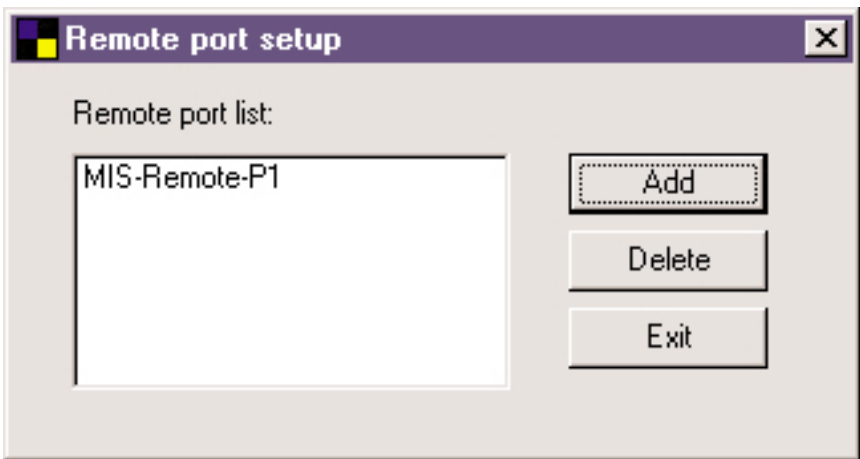
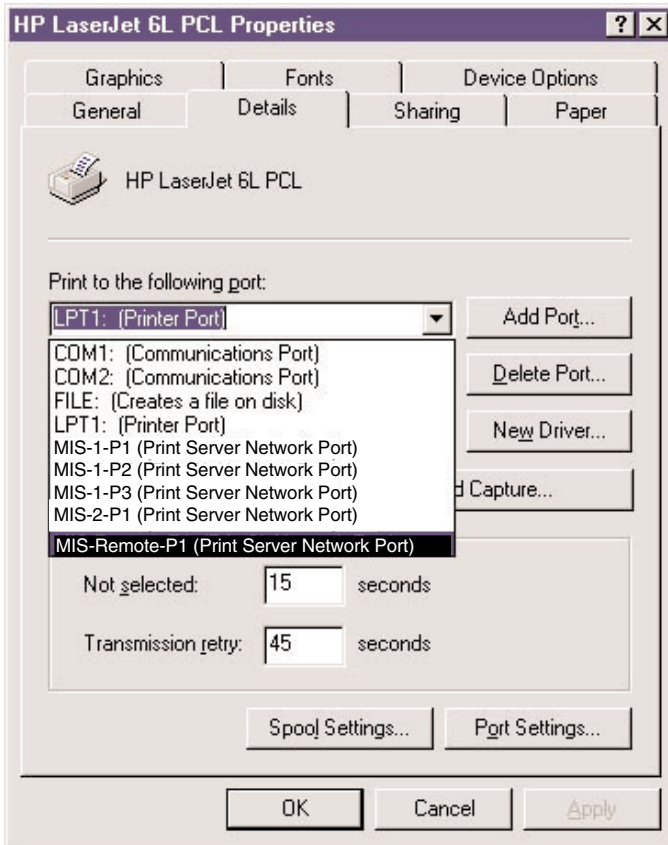

Figure 4-33. Remote port list.
Figure 4-34. Choosing which port to print to.
- Click on the **OK** button (Figure 4-32) to add the remote printer port to your computer's printer ports. Figure 4-33 appears.
To use the remote printing function, proceed with the normal Add Printer procedure and select your printer port as the newly added remote printer port. Click on **Add** in the Remote port setup screen (see Figure 4-33). Figure 4-34 appears.